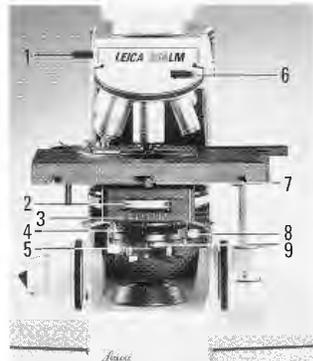

Fig. 9 Transmitted light interference contrast
- 15 Condenser turret plate*, → Fig. 9